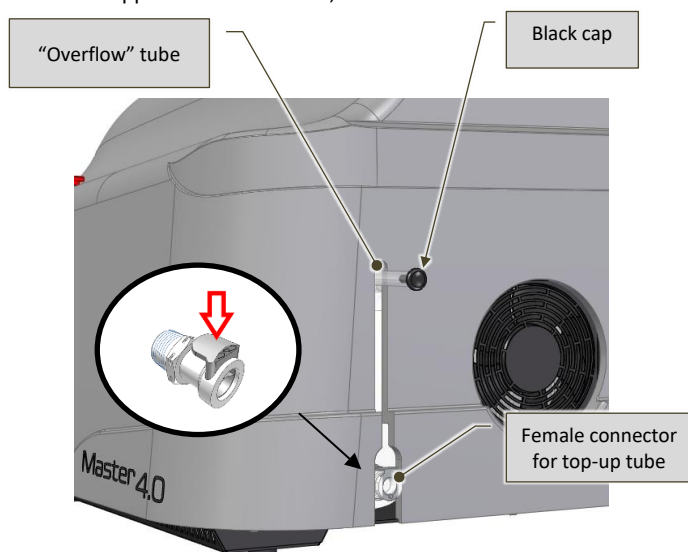

Fig. 7-18 – Cooling liquid top-up – rear view of the machine
- Connect the supplied cooling liquid top-up tube to the female connector (Fig. 7-18) on the rear of the machine;
- Manually remove the black cap (Fig. 7-18) from the “overflow” tube located on the upper rear of the machine;
WARNING!: Hold the overflow tube firmly (Fig. 7-18) when removing its black cap, to ensure it does not become dislodged.